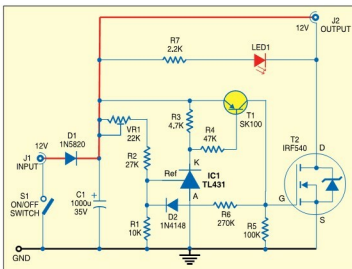

Fig. 1: Safe cigarette lighter socket
As shown in Fig. 1, the heart of the circuit is IC TL431 (IC1)—a voltage regulator wired as a comparator. When the voltage at the reference terminal (Ref) of IC1 exceeds 2.5V, its cathode (K) goes low, which provides base-emitter biasing of transistor T1. Transistor T1 provides regenerative feedback via